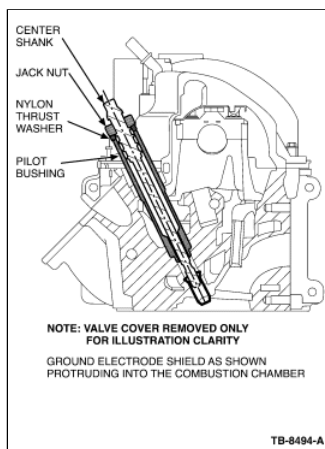
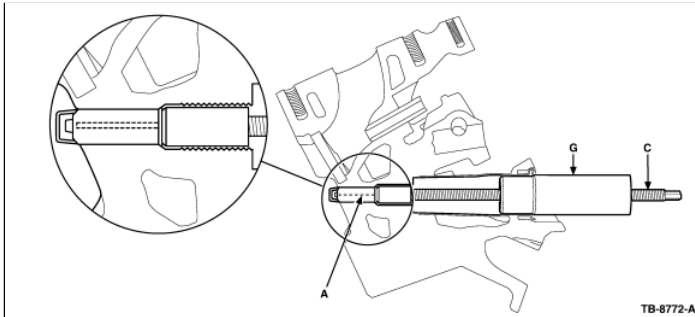

Figure 9 - Article 08-7-6
Figure 19 - Article 08-7-6
- b. Turn the tap about 3 to 4 turns into the ground electrode shield. Back the tap up frequently to break chips and avoid cut material from coiling-up in the spark plug well. A tap socket adaptor (K) is provided with service tool 303-1203 update to connect the tap to a 3/8" socket drive.
4. Thread Rotunda special service tool 303-1203 into the ground electrode shield. (Figure 9)
10. Leave the pin fully inserted in the porcelain while the adhesive cures. Replace the steel tool pilot with the aluminum alignment sleeve (G), Figure 9, to support the threaded rod while the adhesive cures if additional porcelain fragments are present in other cylinders. (Figure 19).